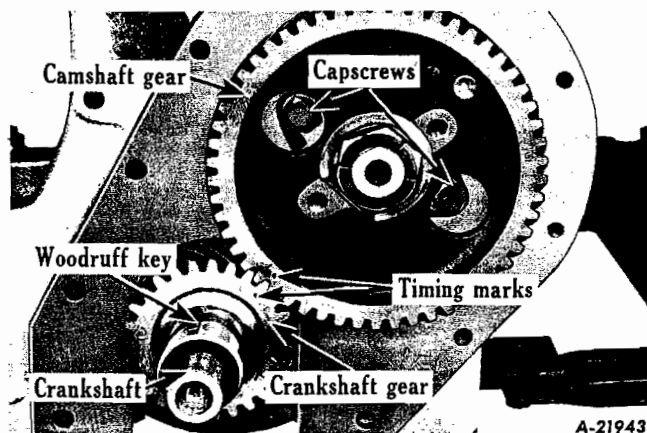

Fig. 70
9. **INSTALL CAMSHAFT AND GEAR.** Coat camshaft with engine oil. Insert camshaft into front end of engine block, being careful not to damage camshaft bearings. Before completely entering camshaft rotate shaft until marked teeth on crankshaft gear and camshaft gear index (Fig. 70). Install two capscrews and lockwashers in camshaft thrust flange, working through large holes in camshaft gear. Rotate crankshaft and camshaft to establish that gears do not bind or interfere. Backlash must be from .000" to .007" (.0015" preferred).